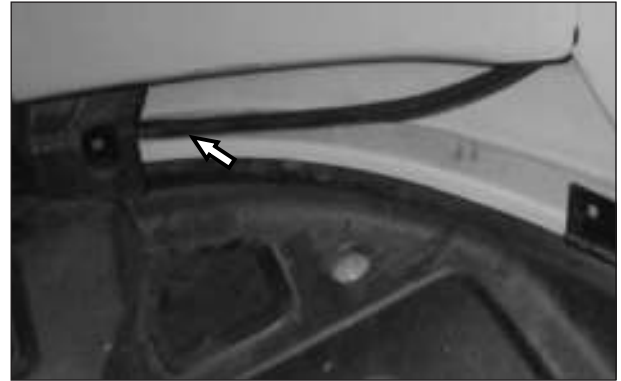

Fig. 9.30
- Route the harness left side as shown in figure. (Fig. 9.30)
- Identify and route the cord set, Main via wiper motor harness routing. (Fig. 9.30)